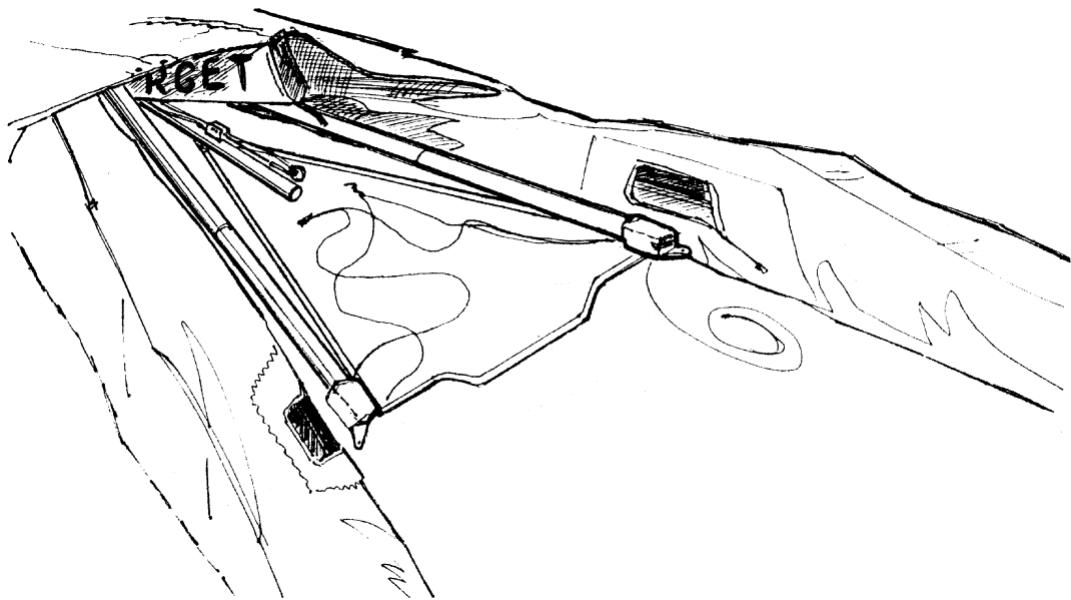

Fig. 10
2.1.10. Spread wings about quarter way and lift slightly the sail above the keel tube. Put the crossbar on the keel tube so that crossbar tension wires pass through the channel of the kingpost. The plates of leading edge/crossbar junction should be near corresponding holes in the leading edge (Fig. 10).